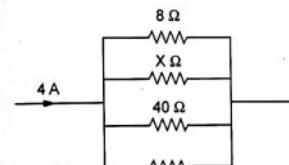

Fig. 1.11.7
**Ex. 1.11.5** In the parallel arrangement of resistors shown the current flowing in the  $8\Omega$  resistor is 2.5 amperes. Find i) Current in other resistors ii) Resistor X iii) The equivalent resistance. Refer Fig. 1.11.7.